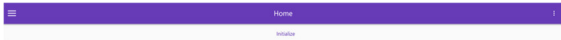

Figure 3 Initialization interface
- 3) The initialization interface is displayed, as shown in following figure 3.